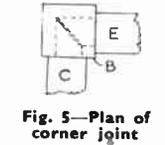
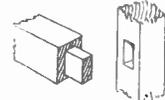
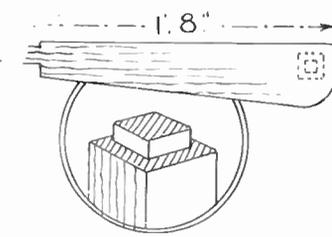

Fig. 5—Plan of corner joint
Fig. 6—Mortise and tenon
Fig. 3—Shape and joint of arm
take the ends of the arm rests, the tenons of which are shown in the upper diagram in Fig. 3. Mortises will also be cut in all four uprights to take the cross rails (C), (D), (E), (F) and (G) and where rails (C) and (E) meet in the back upright, the ends of the tenons will be cut to an angle of 45 degrees, as seen in the detail Fig. 5. The other tenons will be plain and look like that shown in Fig. 6.
For the arm rests two pieces of ¾in. wood 20ins. long by 4ins. wide will be required. They will be shaped with the fretsaw to the outline given in Fig. 3, the